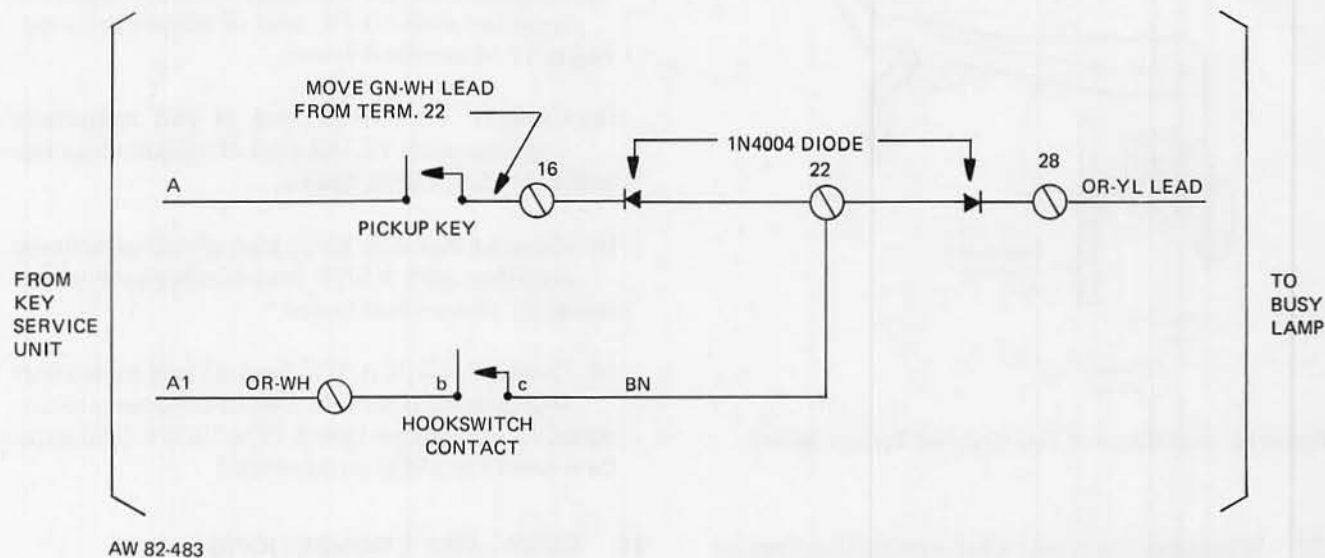

Figure 4: Busy Lamp Connections For 10-Button Telephones with Feature Codes 42 and 46
11.01 Busy lamp connections may vary depending on the type of key system being used. Modifications for the 10-button desk telephones with feature codes 42 and 46 should be as follows: (Refer to Figure 4.)
- (b) Connect one 1N4004 diode between terminals 22 and 16 on the terminal board, and connect another 1N4004 diode between terminals 22 and 28 on the terminal board as shown in Figure 4.